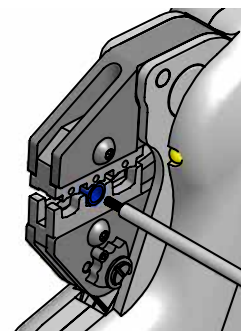

Figure 10
8.3.1 Die sets for insulated/non-insulated cable connectors, butt and coax connectors, wire-end sleeves, RJ plugs (Figure 10)